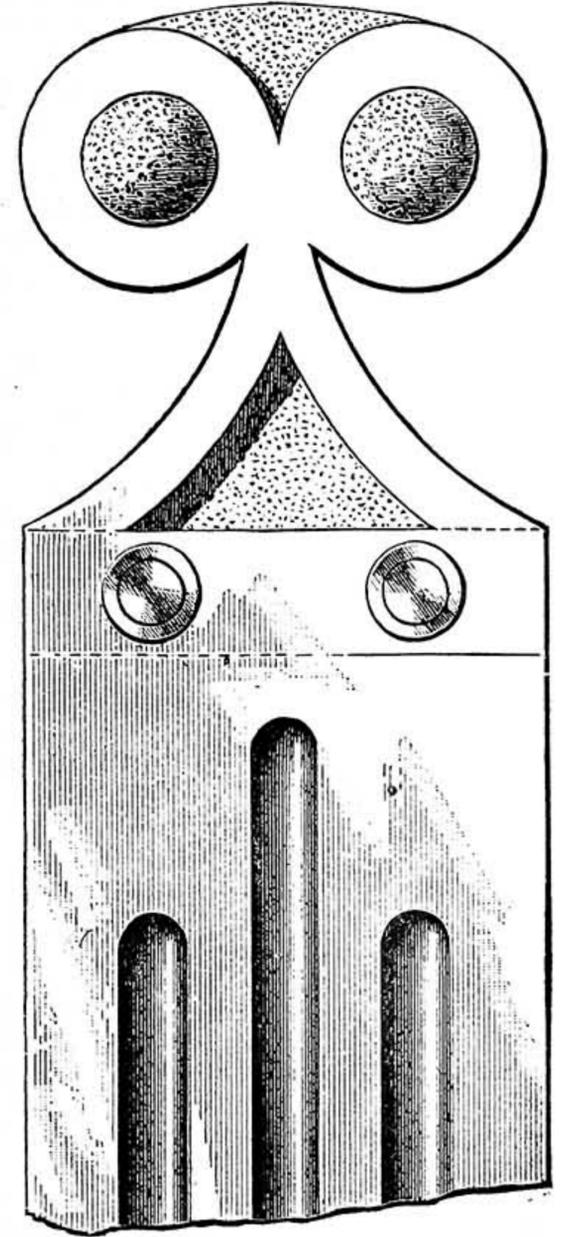

Fig. 4.—Detail of Uprights (full size).
*Uprights.*—The uprights are  $\frac{3}{4}$  in. thick, and, of course, cut out of one piece of stuff, taking care to allow for the recessing into the shelves. All the recesses need not be more than  $\frac{3}{16}$  in. deep. The heads and two feet I shaped out with a fret saw, the speckled portions shown in Fig. 4 being a little diaper work punched over. The grooves are all cut with a  $\frac{1}{4}$  in. gouge: at least, that is the way I have cut mine, but those who have a suitable plane or "scratch" could, of course, use it to advantage. After cutting the grooves, to get them smooth I rounded off a piece of wood to fit them loosely, and by its aid and sand-paper rubbed them down. Fig. 5 is a full-size section from which the gauge may be set for marking them out.